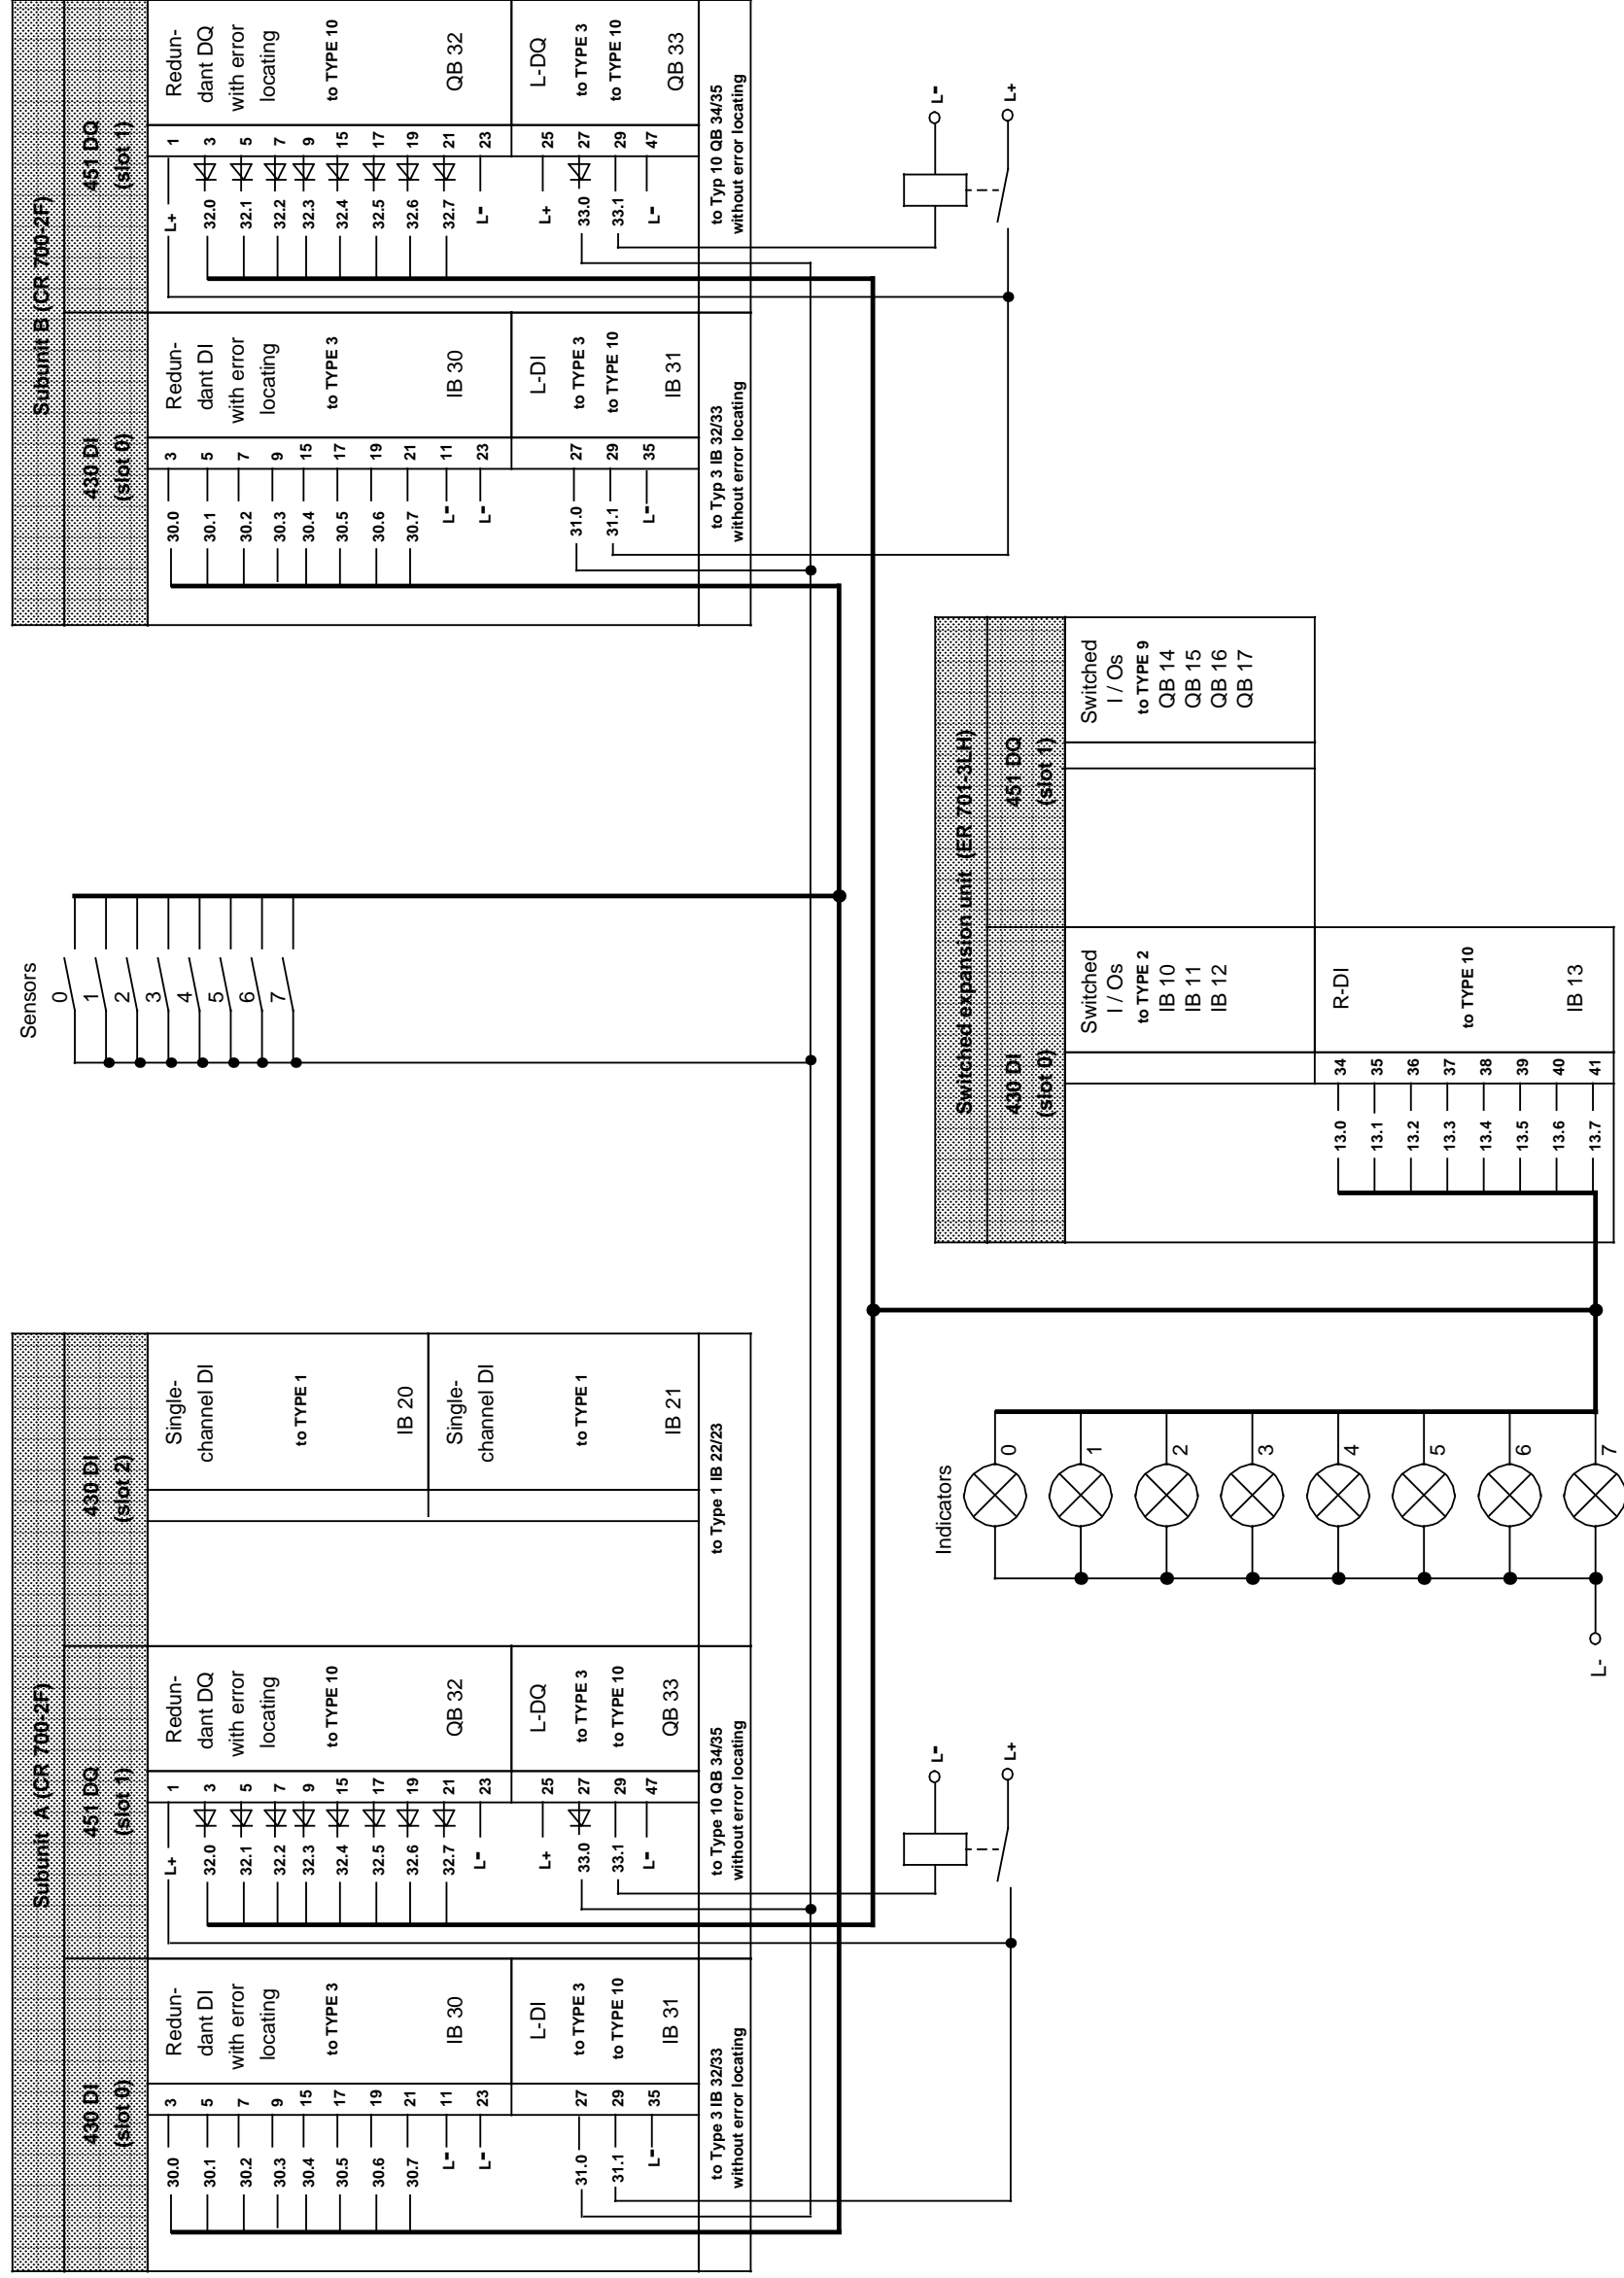

Figure 16-5. Circuit Diagram for a Redundant Structure with Error Locating Facility
- Complete the connections shown in Figure 16-5.